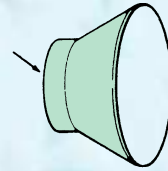

Fig. 6
B. Apply a small amount of nonhardening silicone FITV on surface of insert (see Figure 6).